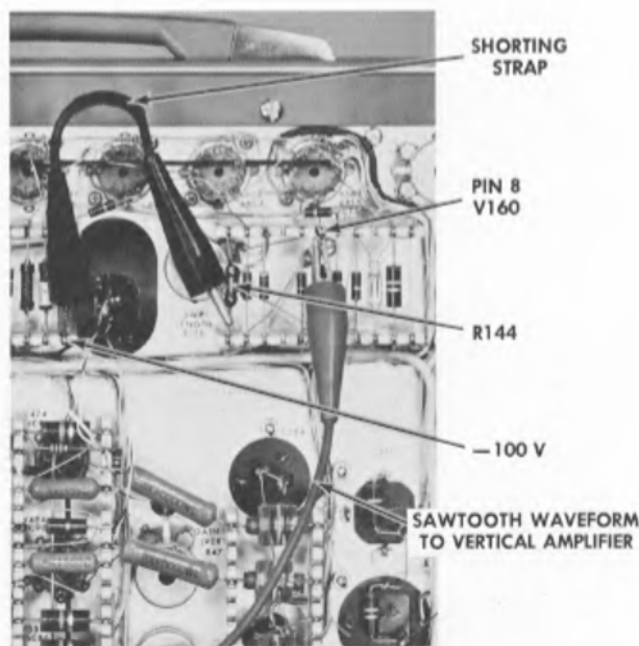

Fig. 6-3. Connections for obtaining a vertical trace on the Type 503 Oscilloscope.
15. High-Frequency Compensation. To adjust the high-frequency compensation of the horizontal attenuators, a vertical trace must be obtained by connecting the output of the Sweep Generator to the Vertical Amplifier. To do this, connect the bottom of R144 to an internal source of -100 volts and connect pin 8 of V160 to the +INPUT connector of the Vertical Amplifier. Fig. 6-3 illustrates how these connections can be made.